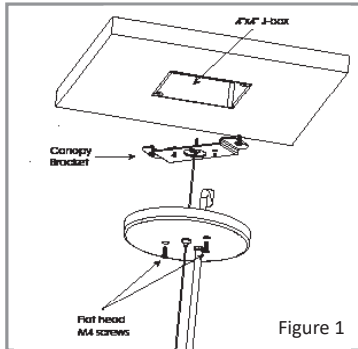

Figure 1
- Remove flat-head M4 screws from assemblies to release canopy bracket. (Figure 1)